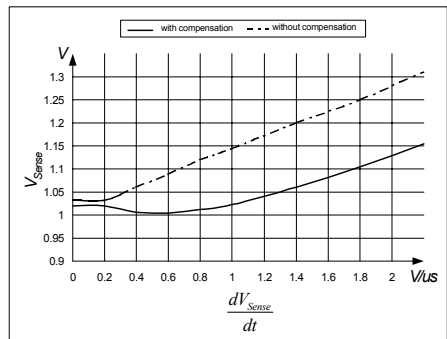

Figure 18 Overcurrent Shutdown
So current limiting is now capable in a very accurate way (see Figure 18).
E.g. $I_{peak} = 0.5A$ with $R_{Sense} = 2 \Omega$. Without propagation delay compensation the current sense threshold is set to a static voltage level $V_{csth}=1V$. A current ramp of $dI/dt = 0.4A/\mu s$, that means $dV_{Sense}/dt = 0.8V/\mu s$, and a propagation delay time of i.e. $t_{Propagation\ Delay} = 180ns$ leads then to a I_{peak} overshoot of 12%. By means of propagation delay compensation the overshoot is only about 2% (see Figure 18).